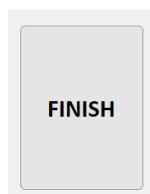

Figure 26: Click the 'FINISH' button to proceed to the next step.
- After finishing setting parameters on the control panel, click the 'FINISH' button (Fig. 26) or simply close the control panel window to proceed to the next step.